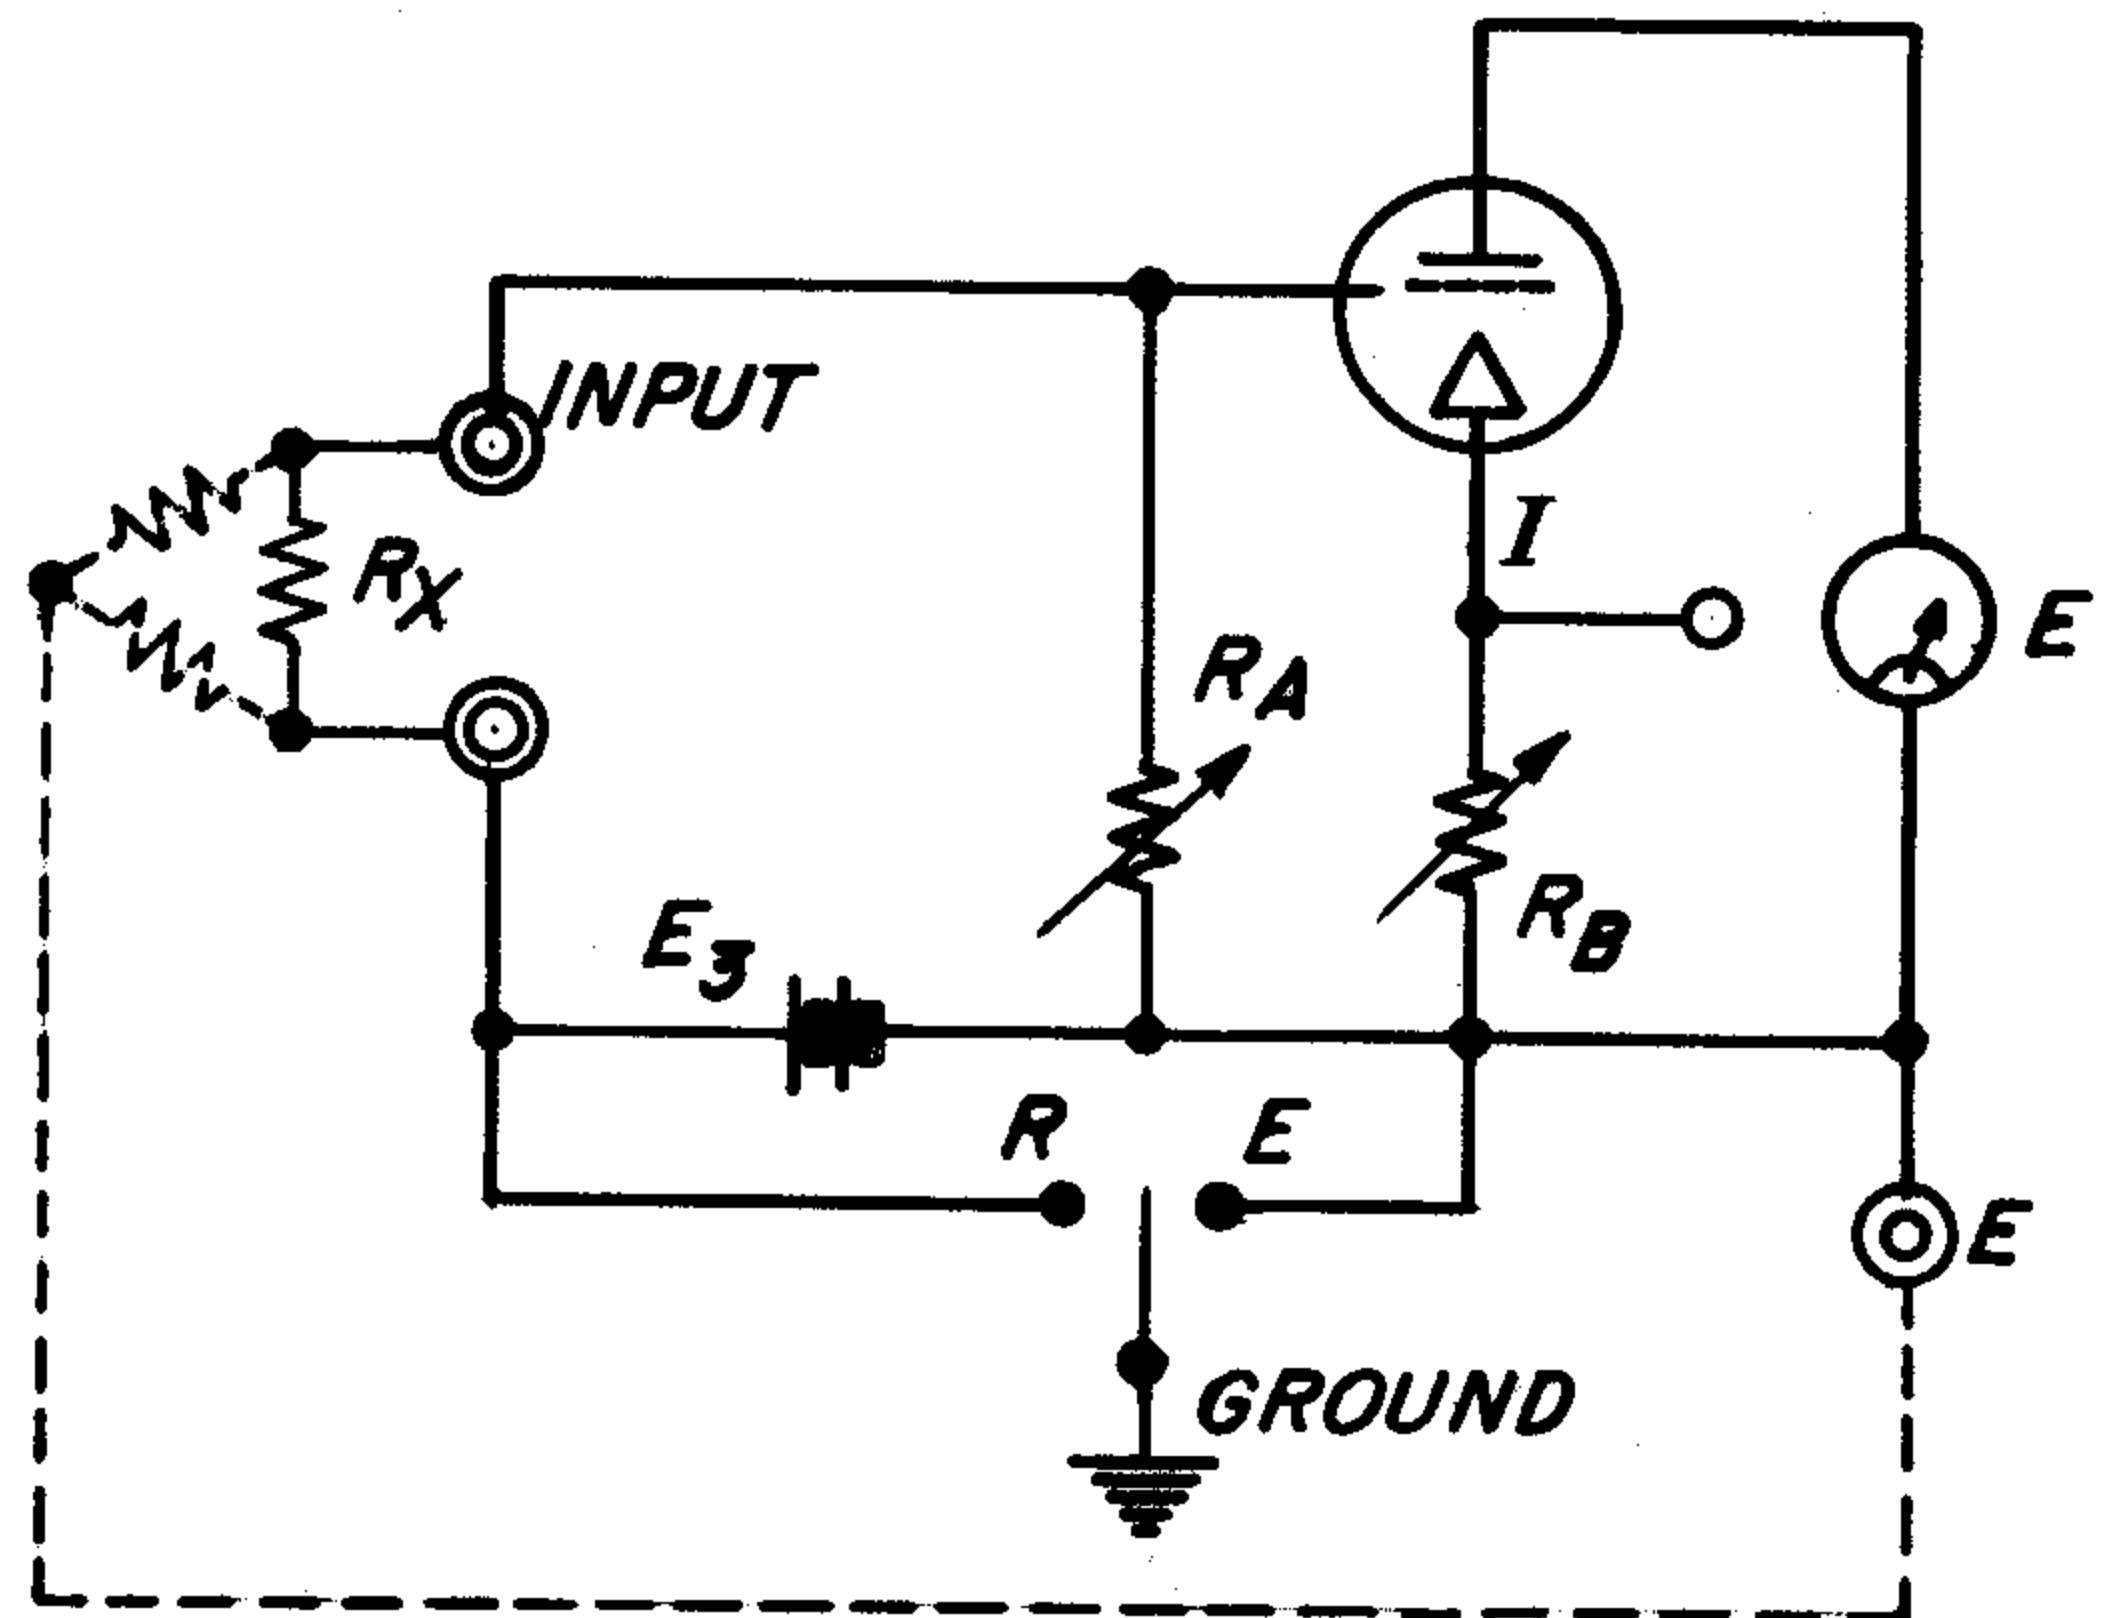

Figure 5. Resistance Measurement with Internal D-C Supply.
to R. (See Figure 5.) Instrument leakage from INPUT to ground (about  $10^{14}$  ohms) will be across the unknown, and therefore may affect the final reading. The actual leakage value can be determined by a preliminary measurement with the unknown resistance  $R_x$  disconnected.
(2) If the unknown resistance is not grounded, and especially if small high-resistance components (that need not be grounded) are to be measured, connect the unknown from the high INPUT terminal to the R terminal and set the GROUND switch to E (see Figure 5). Instrument leakage will be across the internal resistance standard  $R_A$  and will not introduce any error. Leakage across the unknown will be nonexistent.
(3) If the unknown resistance is a three-terminal resistance, (shown dotted in Figure 5), connect the third terminal to the E terminal. Connect the other two terminals in accordance with (1) and (2) above.